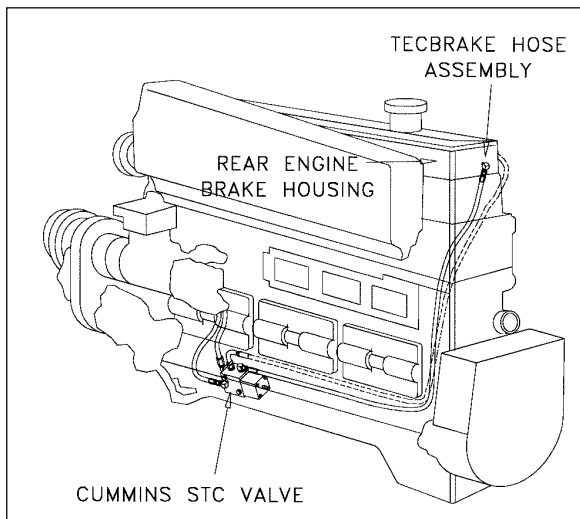

Figure 4A-1
1. An oil connection is required from the **rear engine brake housing** to the STC valve (Figure 4A-1). The oil connection allows operation of engine brake without overloading the engine's valve train.